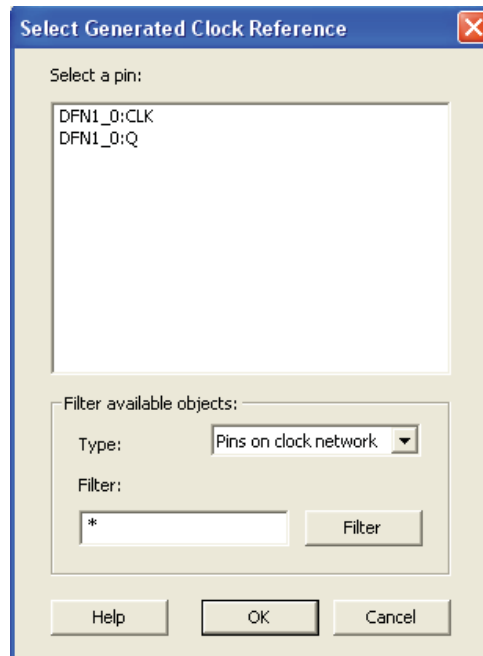

Figure 57 • Select Generated Clock Reference Dialog Box
5. Browse to select a Reference Pin. The Select Generated Clock Reference dialog box displays the list of available clock reference pins, as shown in Figure 57.